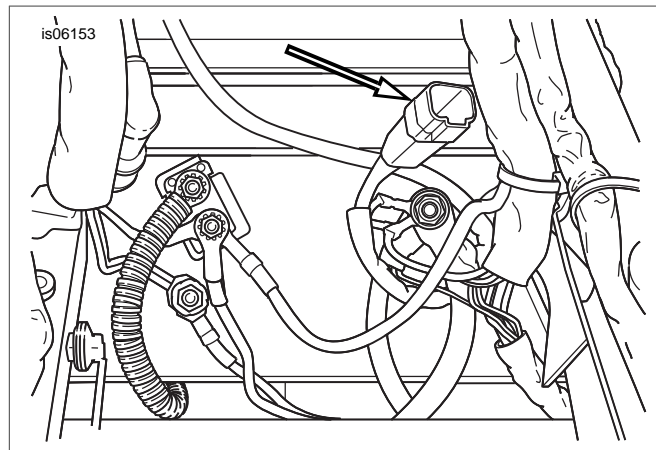

Figure 1. Accessory Connector [4] Location Under Seat
10. Locate the four-way accessory connector [4] in the area under the seat. See Figure 1. Remove the plug from the accessory connector.